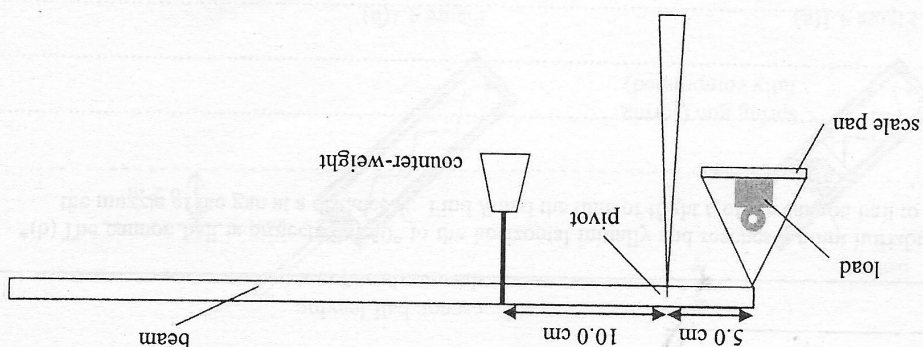

Figure 5.1
5. Figure 5.1 shows the use of a beam balance to measure the mass of a load. Without the load and the counter-weight, the beam with a scale pan at its left end is balanced and remains horizontal. ($g = 9.81 \text{ m s}^{-2}$)